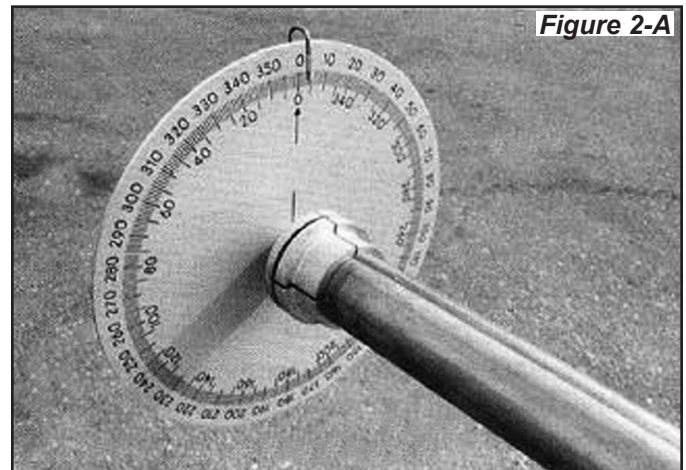

Figure 2-A
The weld seam on the tubing should be directly in line with the ZERO mark at this time. (See figure 2-A)
- For the second bend, slide the tubing to the LEFT so that the second CENTER MARK is lined up with the center of the shoes. (See figure 2-B.)
15. Now, rotate the tubing, not the dial, so that the pendulum pointer or dial indicator points to the proper setting as shown in the PIPE ROTATION section of the card. In this case the PIPE ROTATION will be 147 degrees. ALWAYS use the inside set of numbers. (See figure 2-C)